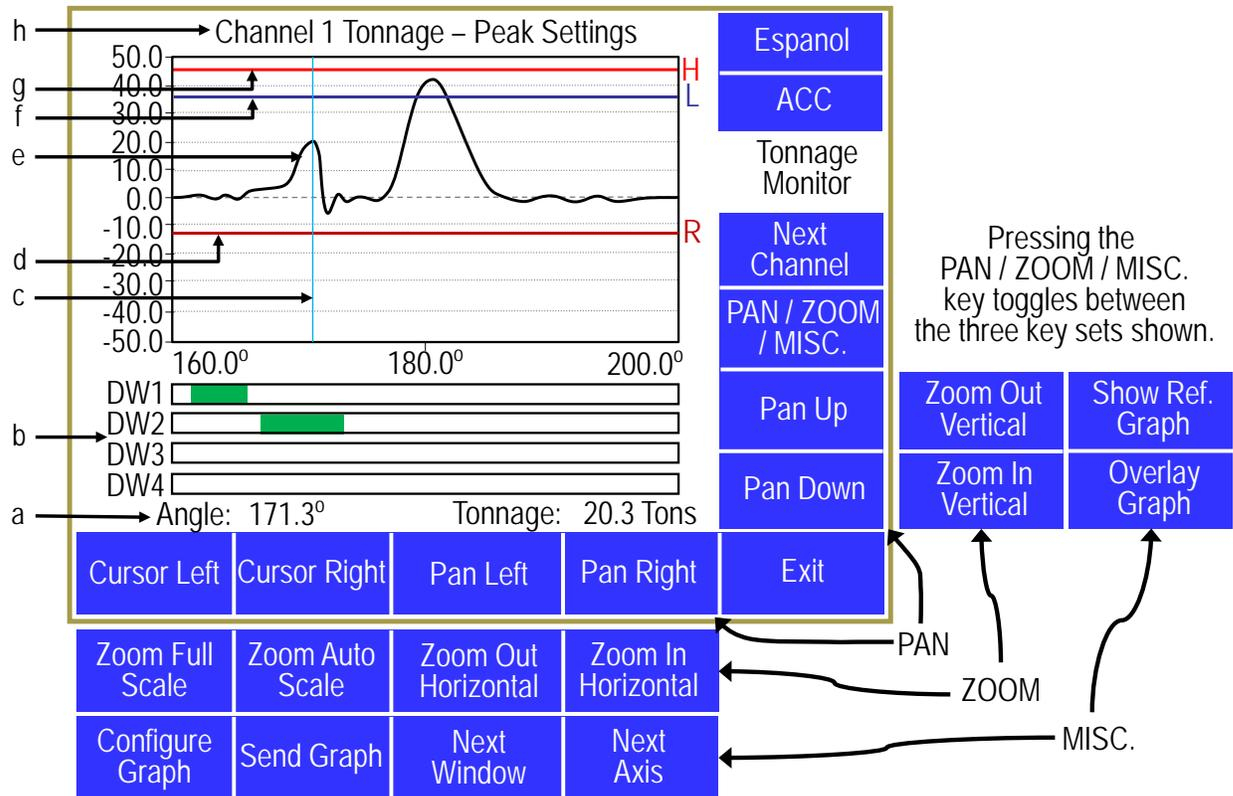

Figure 17: Tonnage Graph Screen
Notice that in Figure 17 there are three versions of several of the softkeys. The PAN / ZOOM / MISC softkey toggles between which key set is shown. When entering the screen, the PAN set is shown. Pressing the PAN / ZOOM / MISC softkey will cause the 4 horizontal keys and 2 vertical keys indicated in Figure 17 to change to the ZOOM set. Pressing PAN / ZOOM / MISC again will change those keys to the MISC. set. Pressing that key again will bring up the PAN set once again. Note that some keys may not display depending on configuration.
Referring to Figure 17, the features of this screen are:
- a) **Cursor Readout** The angle or time and its corresponding tonnage at the point where the vertical measuring cursor (at 171.3 degrees in Figure 17 and pointed to by "c") is sitting.
- Next Channel *Softkey*** This softkey cycles through the channels displayed by the graph. A four channel tonnage monitor will cycle through channel 1, channel 2, channel 3, channel 4, total tonnage, and then back to channel 1. Likewise, a two channel tonnage monitor will cycle through channel 1, channel 2, total tonnage, and then back to channel 1. The channel being displayed is indicated in the title above the graph as shown by “h” in Figure 17.
- PAN / ZOOM / MISC. *Softkey*** Toggles between PAN, ZOOM, and MISC. keys are shown in Figure 17.
To display a reference waveform, press the **Show Ref. Graph** softkey (as seen in Figure 17). Note that this softkey will only be displayed if a reference waveform has been previously stored for the current job and the **MISC.** keys are being displayed using the **PAN / ZOOM / MISC.** softkey. The reference waveform will show in green, overlaid with the current waveform which will still be in black. Once the reference waveform is displayed, the **Show Ref. Graph** key changes to **Hide Ref. Graph**. Pressing this key again will remove the reference waveform from the screen leaving only the current waveform.